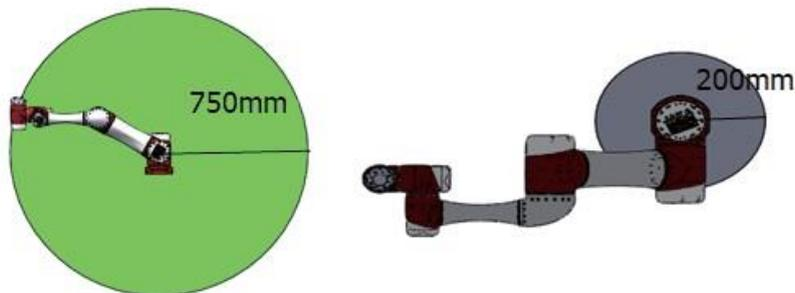

Fig5.1
Fig5-1: Certain areas of the workspace should receive attention regarding pinching hazards, due to the physical properties of the robot arm. One area is defined for radial motions, when the wrist 1 joint is at a distance of at least 750mm from the base of the robot. The other area is within 200mm of the base of the robot, when moving in the tangential direction.
**WARNING:** There are two exceptions to the force limiting function that are important to notice when designing the work cell for the robot. These are illustrated in Figure 5.1. As the robot stretches out, the knee-joint effect can